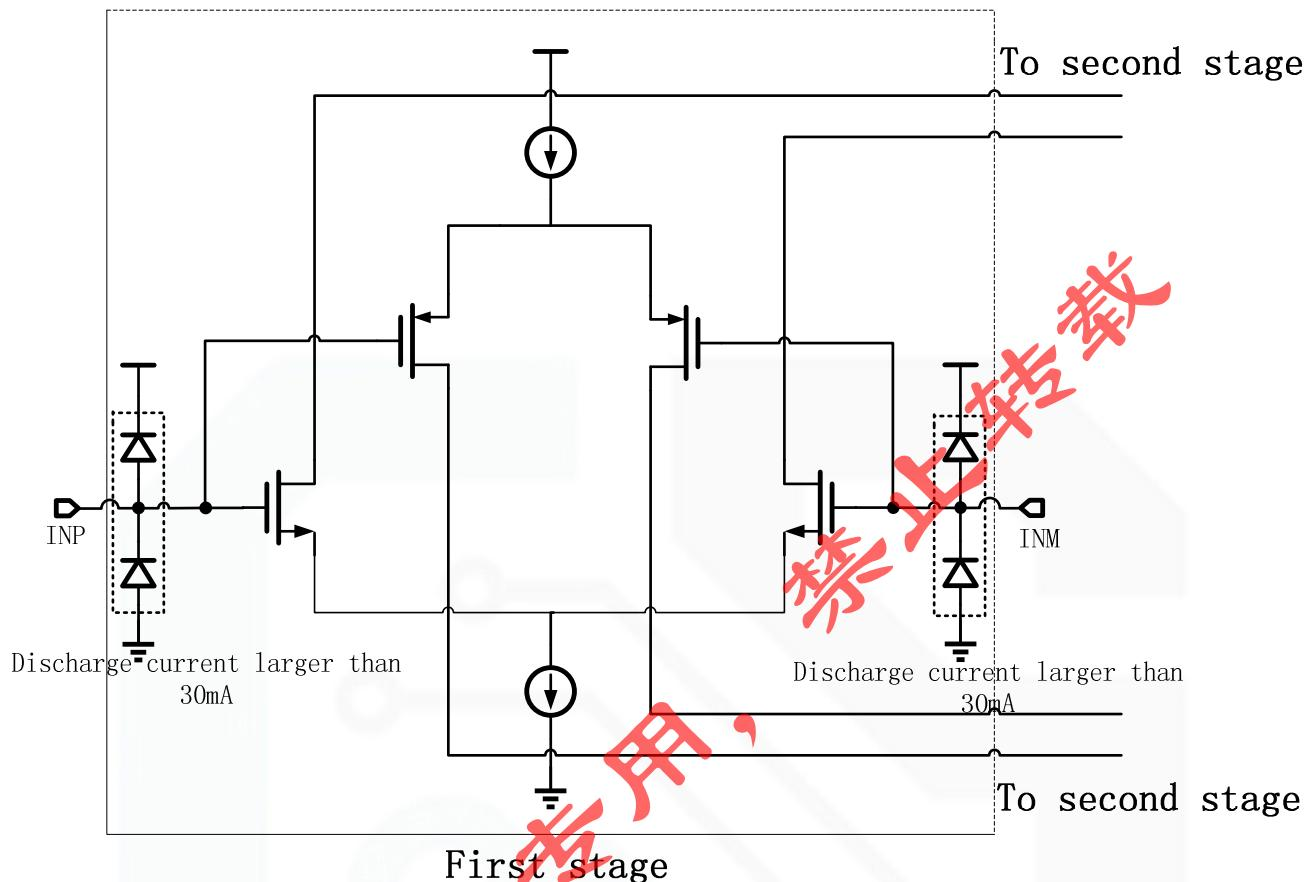
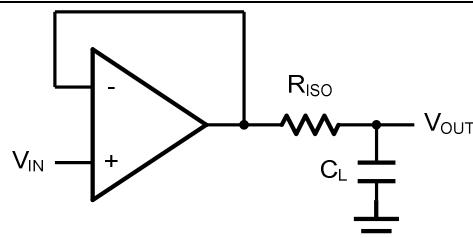

Figure 2. Partial Circuit Structure
Figure 3. Indirectly Driving a Capacitive Load Using Isolation Resistor
The GS863x family is optimized for bandwidth and speed, not for driving capacitive loads. Output capacitance will create a pole in the amplifier's feedback path, leading to excessive peaking and potential oscillation. If dealing with load capacitance is a requirement of the application, the two strategies to consider are (1) using a small resistor in series with the amplifier's output and the load capacitance and (2) reducing the bandwidth of the amplifier's feedback loop by increasing the overall noise gain. Figure 2. shows a unity gain follower using the series resistor strategy. The resistor isolates the output from the capacitance and, more importantly, creates a zero in the feedback path that compensates for the pole created by the output capacitance.
The circuit in Figure 3 is an improvement to the one in Figure 2.  $R_F$  provides the DC accuracy by feed-forward the  $V_{IN}$  to  $R_L$ .  $C_F$